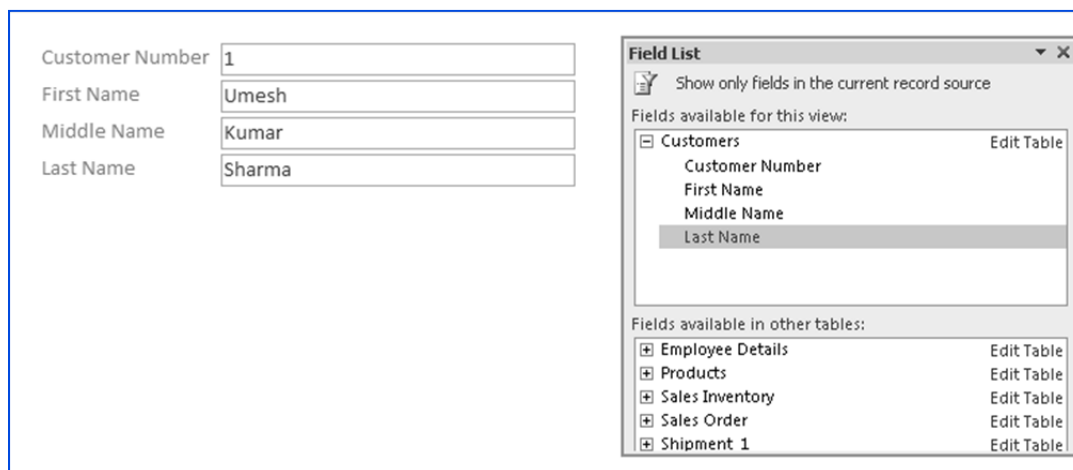

Fig. 2.3.8. Add Fields to a blank form
2. From the *Field List* window, open the plus sign with *Customers* table and drag the fields *Customer Number*, *First Name*, *Middle Name* and *Last Name* to the form. The form appears, as shown in Fig. 2.3.8.